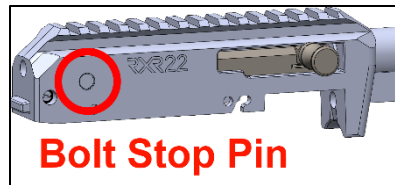

Figure 26
- With an appropriately sized punch, remove the bolt stop pin located at the rear of the receiver – Figure 26.